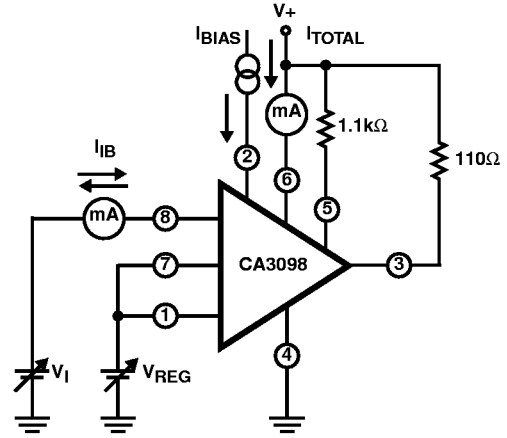

FIGURE 3. TOTAL SUPPLY CURRENT, AND INPUT BIAS CURRENT TEST CIRCUIT
1. For definition of  $V_{REG}$  see Figure 3.
2. Continuous (DC) output current must be limited to ≤40mA. For 100mA output current, the duty cycle must be ≤40%.
NOTE: See Figure 3 for definition of  $V_{REG}$